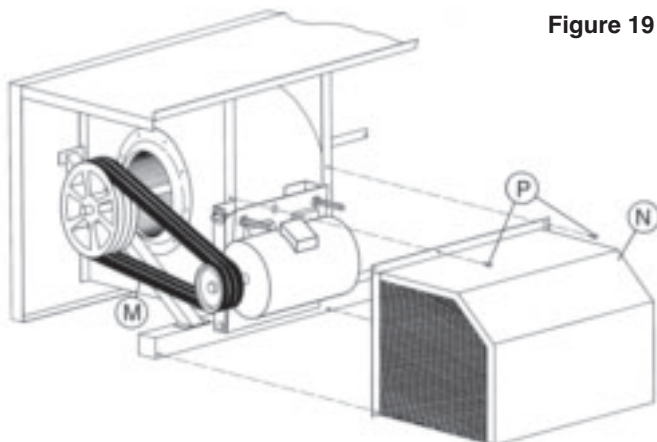

Figure 20 – Motor Guard and Powerband Belt Installation
6. Install the belts M around the fan sheave and motor sheave (Figure 20). Tighten belts by adjusting nuts on J-bolts. Do not over tension the belts. When the belts are properly adjusted, the deflection at the center of the belt should be approximately 1/2" with moderate hand pressure.
9. To install the motor guard N, line up the holes and fasten with the self-tapping screws P (Figure 20). Check to ensure that the motor guard does not make contact with the drive sheave or belts.